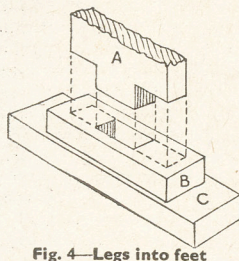
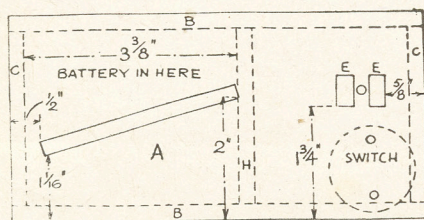
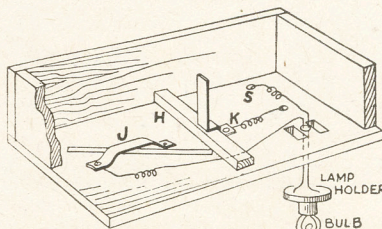

Fig. 4—Legs into feet
Fig. 2—Plan of the base board top
Fig. 3—Underview of box showing connections
The main frame support for the table consists of four pieces, two uprights and two horizontal rails, with the addition of four pieces coupled to form suitable feet. In Figs. 2 and 3 the uprights (A) are first made and these are 1ft. 8½ins. long by 3ins. wide by ¾in. or 1in. thick.
The length given allows for ½in. depth of tenon to go into piece (B) of the feet, see detail Fig. 4. There must be two mortises cut in each piece (A), to take the ends of the horizontal rails. The measurement of 4½ins. must be taken up from the bottom of the upright, as in Fig. 3, the space between this mortise and the upper one being 14ins., as seen in Fig. 2.
A view of one of the feet is shown in Fig. 4, piece (C) being 5ins. long by 1½ins. by ¾in. section, and piece (B), 3½ins. long by 1½ins. wide by ¾in. thick. Mark off the mortises carefully in pieces (B) to fit the tenons of pieces (A). Then glue all firmly together.
This is again seen in the view Fig. 2 and in the plan Fig. 6. Glue the rails (D) in place in the uprights, making sure to get a close fit and, therefore, a rigid frame. At the opposite end to that containing the recesses, cut and glue in two small bracket pieces, as shown in Fig. 2. These are to strengthen the joint here and to help make a strong fixing for the pivoting screws which run up through both thicknesses of wood, see dotted lines for both rails (D).
Figs. 2 and 3—Front and end elevation showing parts and dimensions
The finished table top is hinged to the uprights with hinges measuring about 2ins. by 5/8in. wide. It would be best, and would make a neat job if the hinge flaps are recessed into the tops of the uprights, as in Fig. 3. Note the correct position of the table top in relation to the uprights, as in Fig. 6. The distance of 4 1/4ins. is carefully measured and squared across so the frame hangs square when folded down. Test this out before finally fixing the hinges in place.
First make a shallow oblong box  $6\frac{1}{2}$  ins. long by  $3\frac{1}{2}$  ins. wide and  $1\frac{1}{2}$  ins. deep. The top of the box, piece (A), should measure  $6\frac{1}{2}$  ins. by  $3\frac{1}{2}$  ins. In it are cut the two slots or mortises, marked (E,E) in Fig. 2. Set out the two measurements shown, to get the proper position of the slots which each measure  $\frac{1}{2}$  in. by  $\frac{1}{4}$  in. and are spaced  $\frac{1}{4}$  in. apart. Cut these carefully with the fretsaw. The tenons which go into them must fit stiffly and accurately. Between the slots, next cut a hole large enough for the two wires of the flex to pass through to the lamp at the top of the tree.
The sides (B), measure  $6\frac{1}{2}$  ins. by  $1\frac{1}{2}$  ins., and are glued on to the top (A), flush with the edge, as shown in Fig. 3. This gives an underside view of the construction of the box and its interior fittings.
To get the proper placing of the giraffe, the slot in the top of the box is indicated and figured in Fig. 2. If the slot is not to be made, then the position will be just pencilled on.
It will be understood that a double-cell battery is to lie at one end of the box, as indicated in Fig. 2. A cross rail (H) bearing a brass strip will be fitted here to connect with the contact strip at the end of the battery, all as seen in Fig. 3. Then to form the second connection between battery and lamp, a raised loop of brass is screwed to the top of the box to contact that between the two cells of the battery.
Before, however, this can be done, a switch must be fixed to the top of the box in the position shown in the sketch, Fig. 1. That is, just near the foot of the tree, and at (S) in Fig. 3. Here two holes are bored for the passage of the connecting wires.